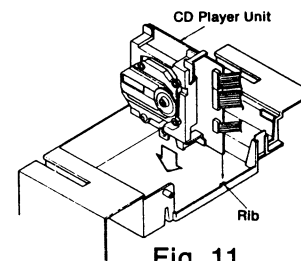

Fig. 11
3. Remove the 4 screws from the operation P.C.B. (See Fig. 11)
- Install the removed CD player perpendicular to the rib on the cabinet. (See Fig. 11)